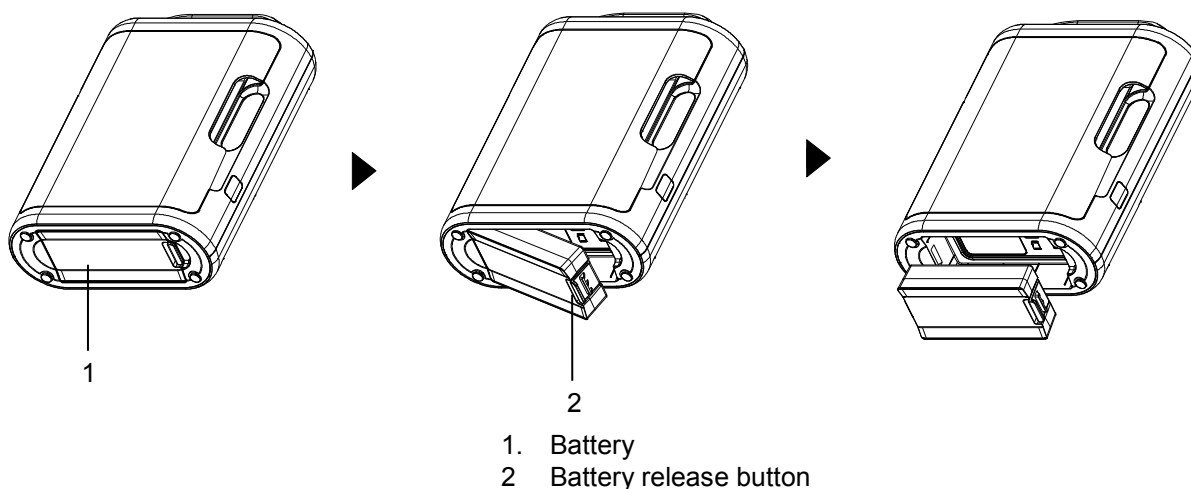

Figure 3. Removing the battery
1. Pull down the battery while pushing the battery release button, then disconnect the battery as shown in the Figure 3.